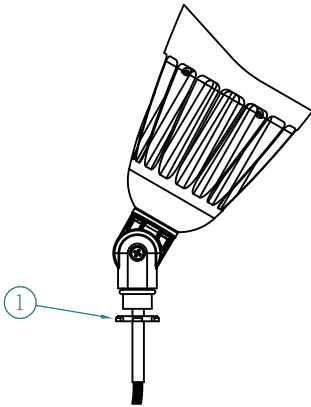
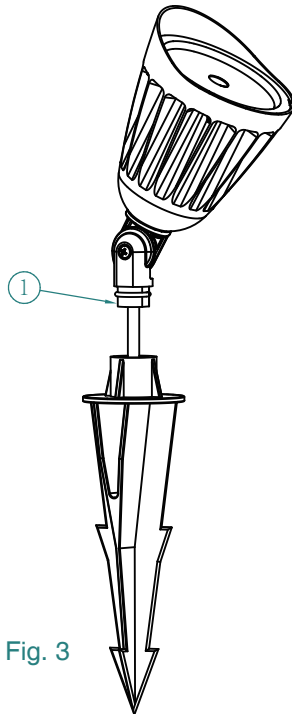

Fig. 2
Fig. 3
**Removing Fixture Arm and Mounting Fixture on Stake (See Fig. 2 and Fig. 3)**
- Completely loosen lock nut (Item 1, Fig. 2) to remove threaded arm from fixture.
- Cross the wires out of fixture into ground stake, and secure the fixture onto ground stake by 1/2 thread (Item 1, Fig. 3).